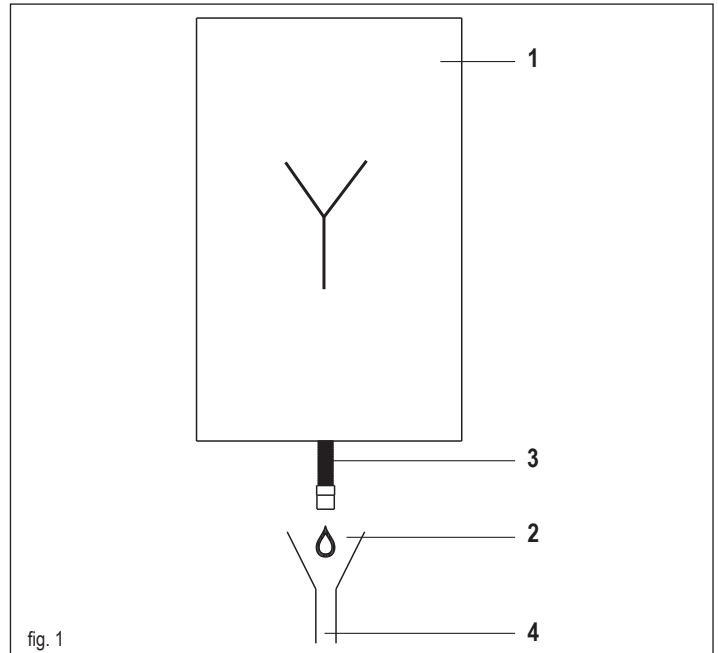

fig. 1
The disconnection must be such as to ensure an atmospheric connection between the inside of the condensation exhaust system pipe and the environment in order to avoid that the downstream exhaust pipe of the product can take on positive or negative pressure with respect to the environment itself. Fig. 1: example of a connection between the condensation exhaust pipe (3) and the exhaust system (4).